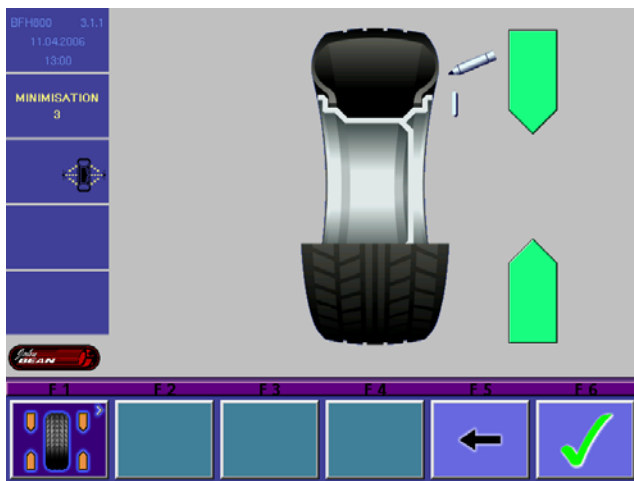

Figure 31
5. Rotate the assembly so the arrows are both GREEN, as shown in Figure 31. Mark the tire at top dead center. Select "F6" to continue.